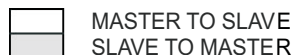

Figure 14. SMBus Write-Word and Read-Word Protocols
The bq24765 receives control inputs from the SMBus interface. The bq24765 uses a simplified subset of the commands documented in System Management Bus Specification V1.1, which can be downloaded from www.smbus.org. The bq24765 uses the SMBus Read-Word and Write-Word protocols (see Figure 14) to communicate with the smart battery. The bq24765 performs only as an SMBus slave device with address 0b0001001_ (0x12) and does not initiate communication on the bus. In addition, the bq24765 has two identification (ID) registers (0xFE): a 16-bit device ID register and a 16-bit manufacturer ID register (0xFF).
To set the output charge voltage regulation limit, use the SMBus to write a 16 bit ChargeVoltage() command using the data format listed in Table 3. The ChargeVoltage() command uses the Write-Word protocol (see Figure 14). The command code for ChargeVoltage() is 0x15 (0b00010101). The bq24765 provides a 1.024-V to 19.200-V charge voltage range, with 16 mV resolution. Setting ChargeVoltage() below 1.024 V or above 19.2 V clears DAC, and terminates charge.
To set the charge current, use the SMBus to write a 16bit ChargeCurrent() command using the data format listed in Table 4. The ChargeCurrent() command uses the Write-Word protocol (see Figure 14). The command code for ChargeCurrent() is 0x14 (0b00010100). When using a 10-mΩ sense resistor, the bq24765 provides a charge current range of 128 mA to 8.064 A, with 128 mA resolution. Set ChargeCurrent() to 0 to terminate charging. Setting ChargeCurrent() below 128 mA, or above 8.064 A clears DAC and terminates charge
To set the input current limit, use the SMBus to write a 16-bit InputCurrent() command using the data format listed in Table 5. The InputCurrent() command uses the Write-Word protocol (see Figure 14). The command code for InputCurrent() is 0x3F (0b00111111). When using a 10-mΩ sense resistor, the bq24765 provides an input-current limit range of 256 mA to 11.004 A, with 256 mA resolution. InputCurrent() settings from 1 mA to 256 mA clears DAC and terminates charge. Upon reset the input current limit is 256 mA.